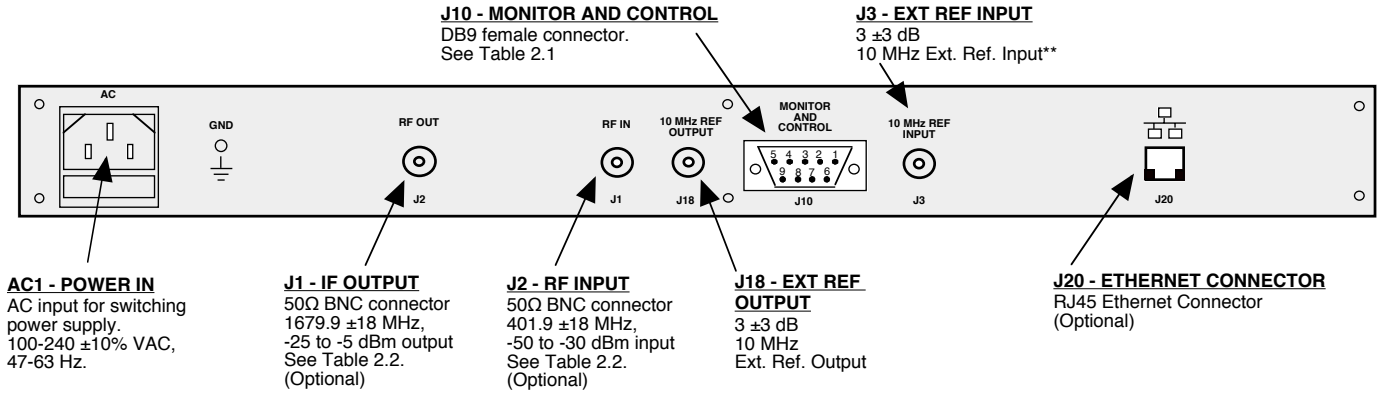

FIGURE 2.1 2083-0416# Rear Panel I/O's
Figure 2.1 shows the input and output connectors on the rear panel.
1. Connect a -50 dBm to -30 dBm signal to IN, J2 (Figure 2.1)